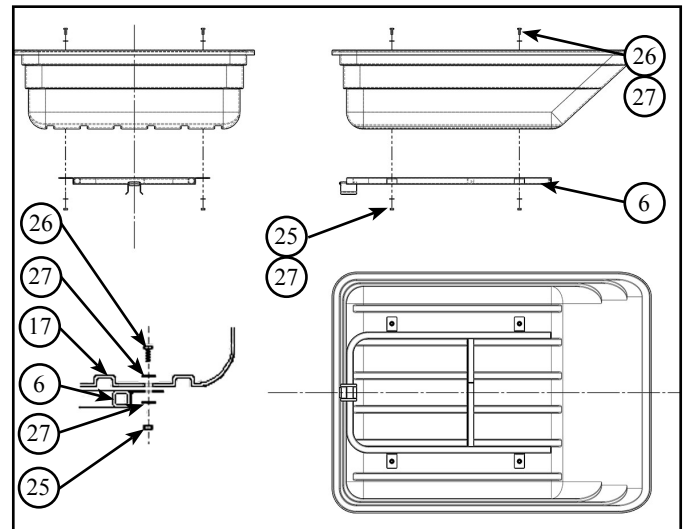

Figure 3.3 - Bed Frame Alignment
3. Have the assistant hold a bolt (26) and washer (27) through the inside of the bed (17). Refer to Figure 3.3
4. Align the bed frame with the bottom-side of the bed and the inserted bolt. Refer to Figure 3.3
5. Install a washer (27) and nut (25), hand tighten. Refer to Figure 3.3
2. Ensure gas spring bracket flange is located on the same side as the bed frame mounts. Insert bolts (24) and washers (27). Refer to Figure 3.3